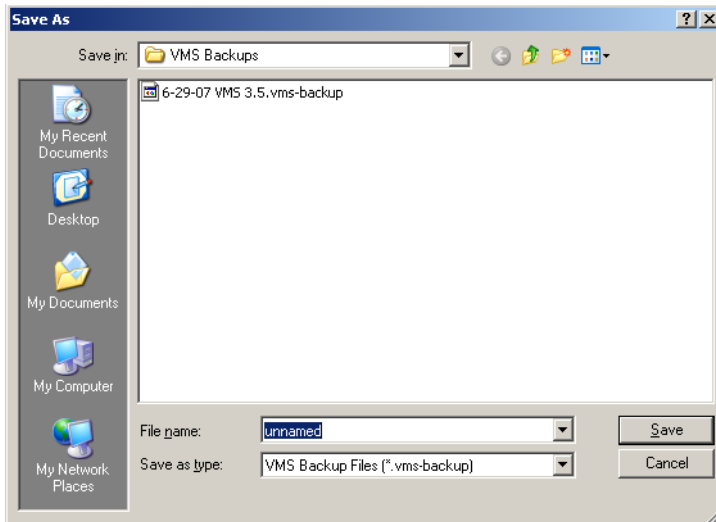

Figure 2-7 VMS Backup Save As dialog
2. Enter the **Name** for the backup file and select the directory location for saving the file from the **Save As** dialog window that opens (figure 2-7).